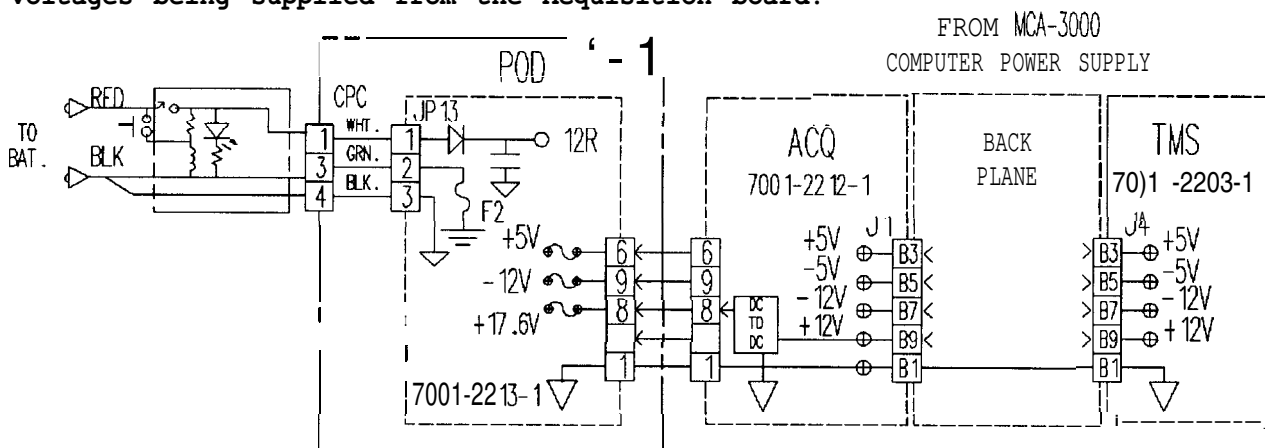

Figure 1-1. Power Supply Diagram
Referring to Figure 1-1, when the POD (remote "T" box) is hooked up, it is connected directly to the battery. For safety reasons, there must be no current flowing to prevent arcing when hooking up to battery. The Power box provides this safety factor. To allow current to flow the push button must be pressed. CR25 provides rectification and polarity input protection. If the battery leads were inadvertently reversed, CR25 would remain reverse biased preventing the unit from being energized.
I. POWER LED will not light when the POWER ON button is depressed.	<p>Are the twin flex leads from the Pod connected to a good 12 volt battery?</p> <p>YES NO</p> <p>Connect twin flex leads to a good 12 volt output.</p> <p>Using a DVM, is there 12 volts at the input of the Power Box?</p> <p>YES NO</p> <p>Replace the twin flex lead assembly and check for normal operation.</p> <p>Replace Battery Box/Lead</p> <p>Refer to Theory of Operation and Figure 1-1.</p>